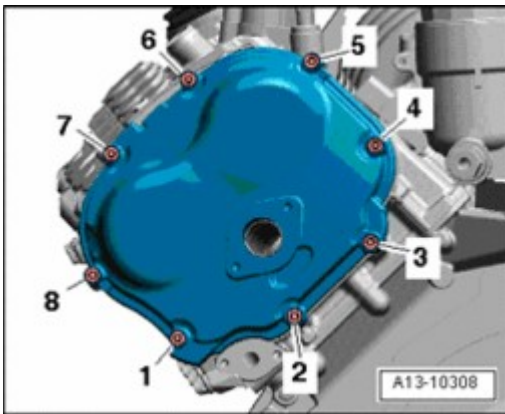

Fig. 163: Identifying Left Timing Chain Cover And Tighten/Removing Bolts Sequence
- Observe sequence when tightening: Left --> **Fig. 163** ; right --> **Fig. 165**